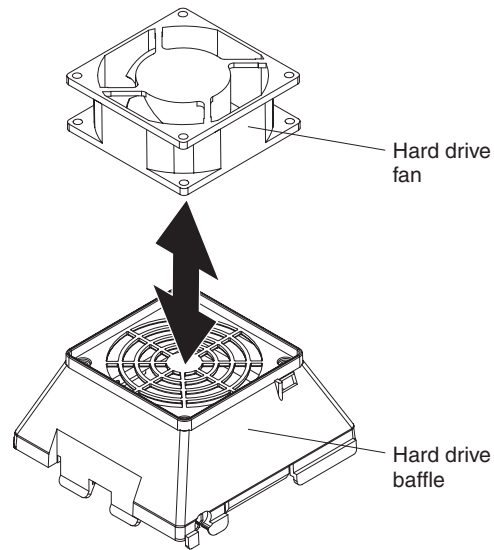

Figure 33. Installing the hard disk drive fan
1. Position the fan so that the grommets protrude through the holes in the fan assembly; then, use needle-nose pliers to pull the grommets through the holes (see Figure 33).